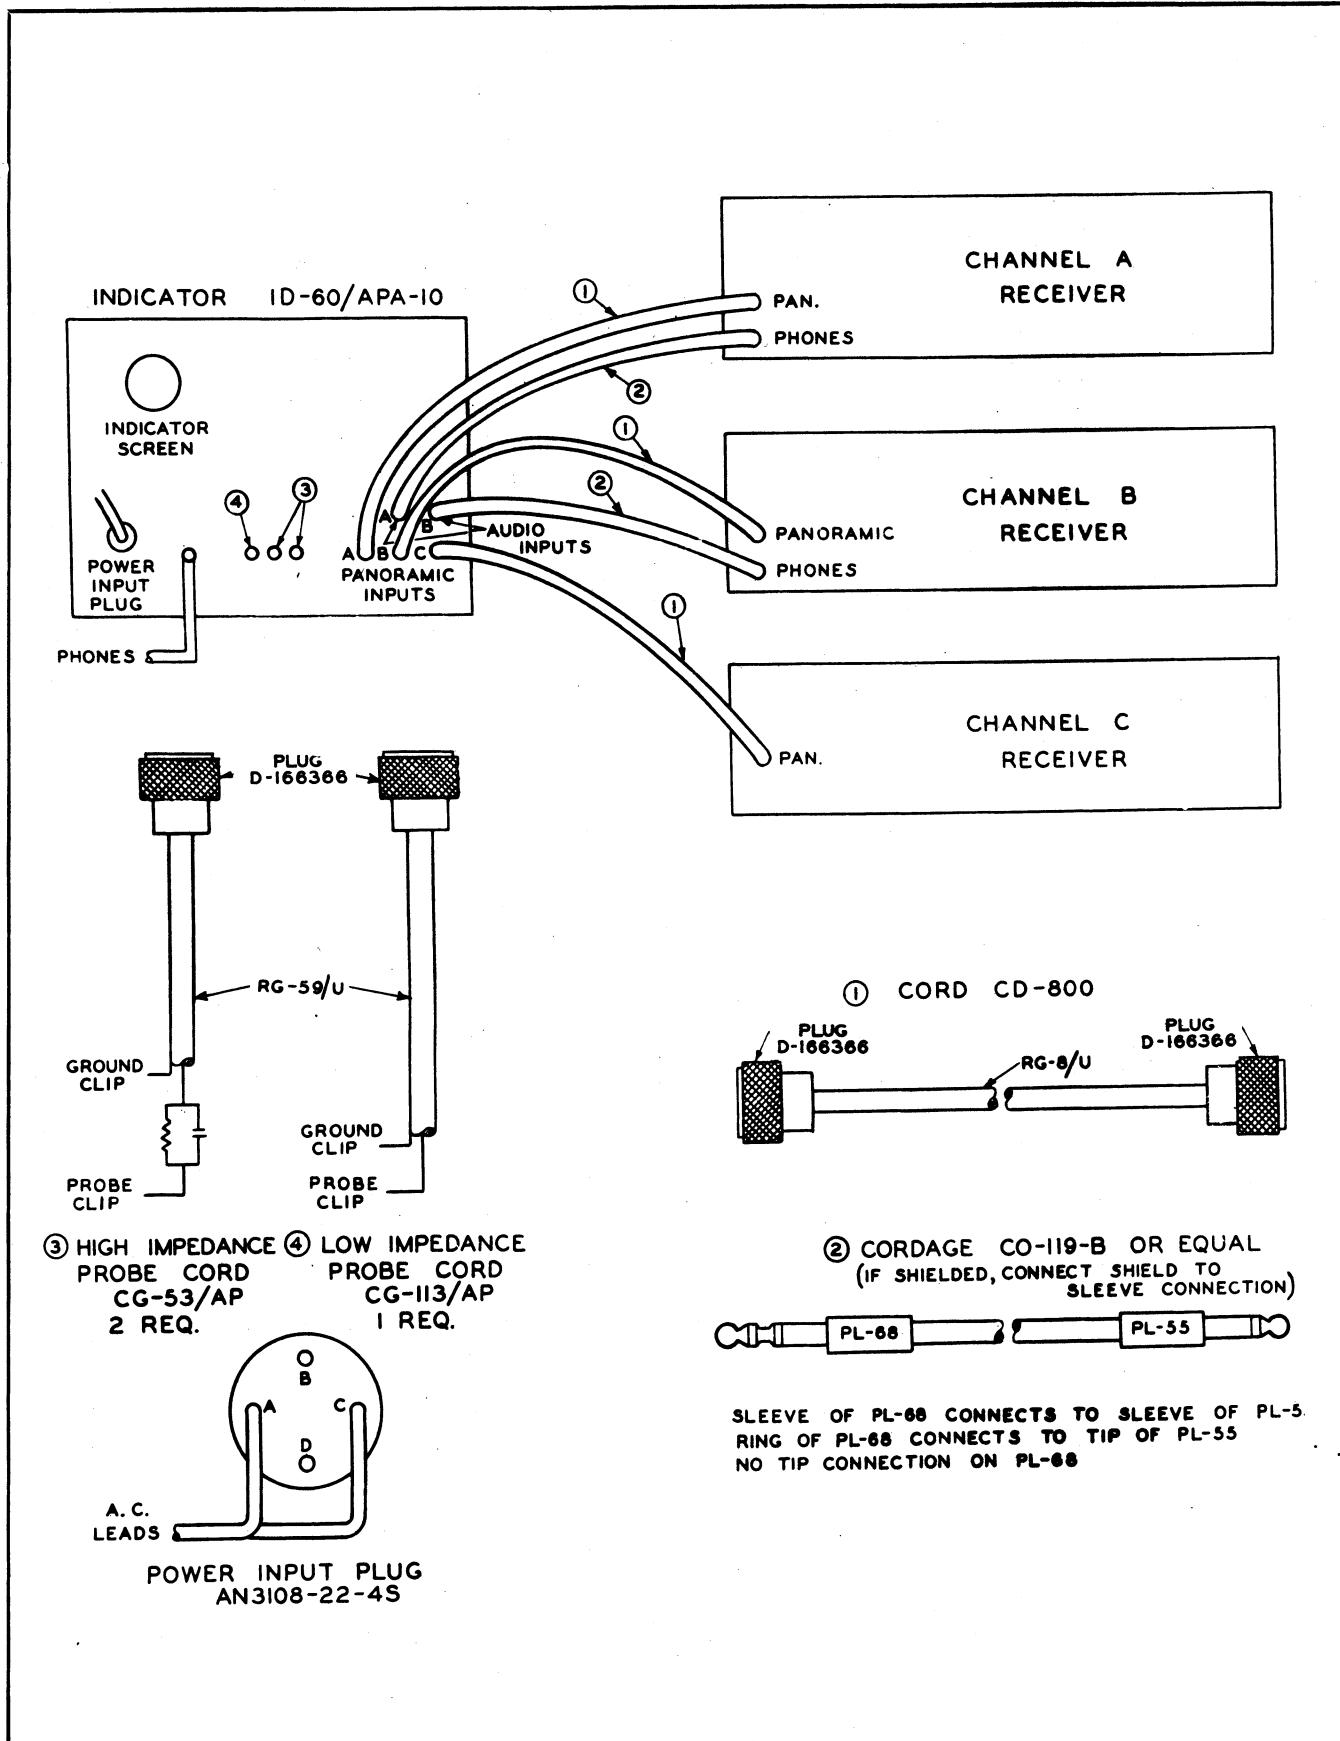
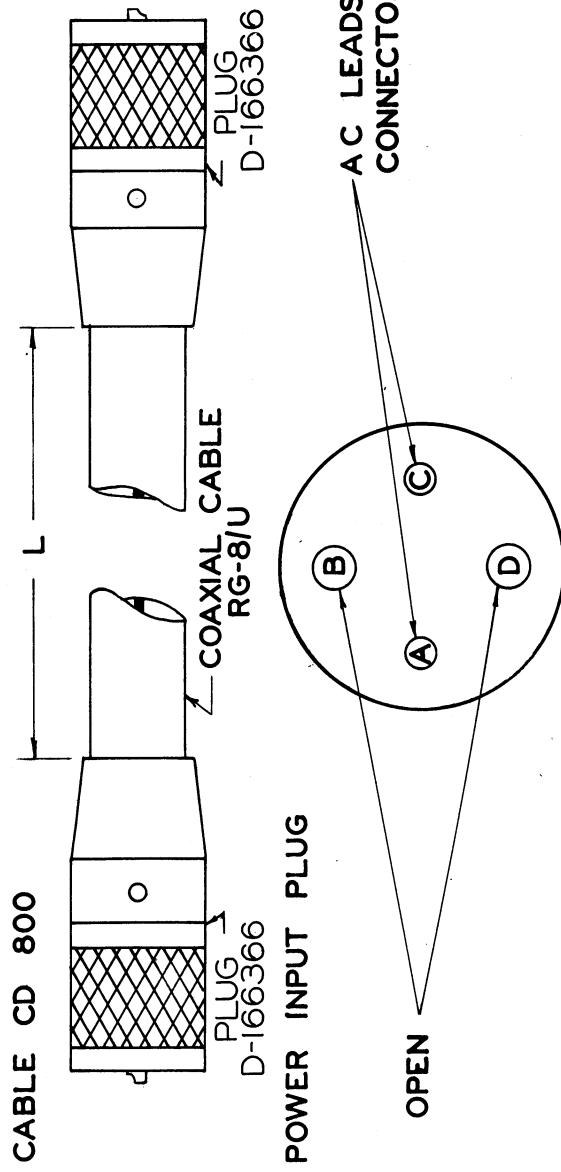

Figure 2-3. Cable Connections
Figure 2-4. Construction of Cords
c. Connect Panoramic Adapter AN/APA-10 to associated receivers as shown in figure 2-3. Connect the r-f input jacks on the unit (marked "PANORAMIC INPUTS") to the receiver outputs marked "PAN." Notice that a 30-inch cord is used for channel A, and 20-inch cords are used for B and C channels. The right angle adapter, Adapter M-359, is used on these cords. Connect audio outputs (the jacks marked "PHONES") of receivers for A and B channels to the indicator panel jacks marked "AUDIO INPUTS" using the cords shown in figure 2-4. Plug a headset equipped with a Plug PL-55 into the "PHONES" jack of Indicator ID-60/APA-10.
c. The power cable (see fig. 2-4) is cut to proper length and fitted with Adapter AN3057-12 and Plug AN3108-22-4S on one end.
- (1) Make certain all cables and cords are connected properly. (See fig. 2-3.)
- (2) Turn on the associated equipment, the inverters and the receivers.
(3) Turn the "ON-OFF" switch on Indicator ID-60/APA-10 to "ON" position. If the pilot lamp on Indicator ID-60/APA-10 does not appear to light, rotate the lamp bezel from zero to maximum counter-clockwise position until it glows with the intensity desired.